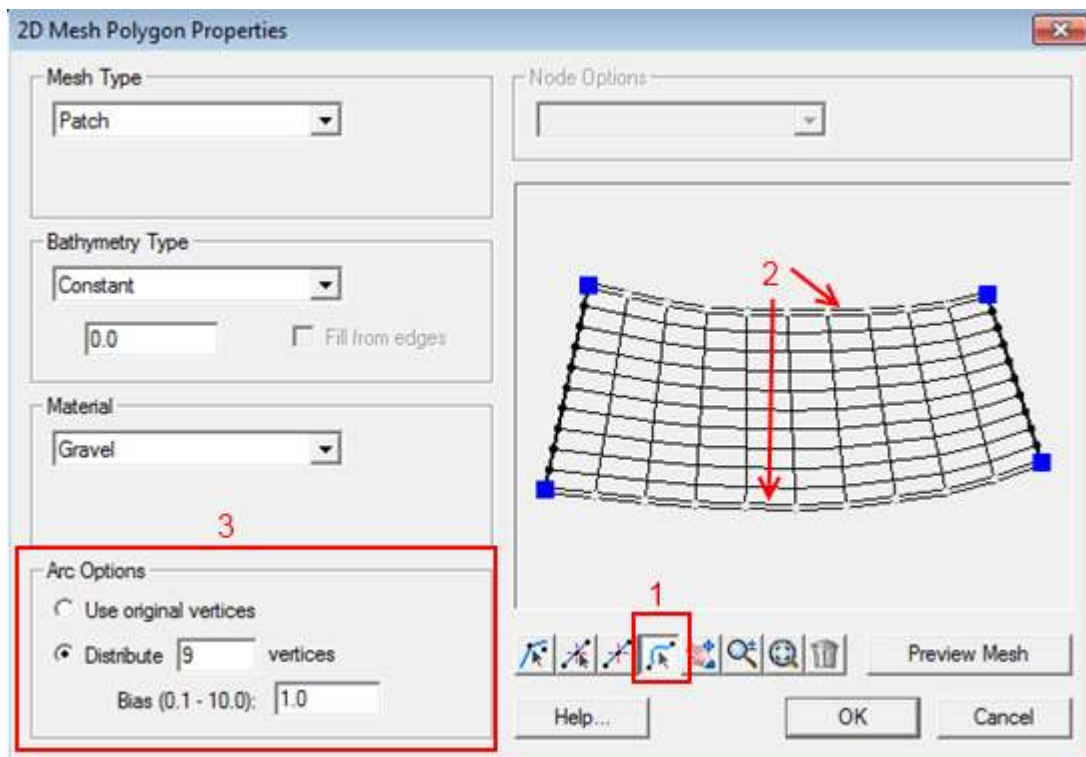

Figure 7
2. Select the *Distribute* option under the Arc Options section and set it to your desired number of vertices. Since both arcs are selected, this will set both arcs to have the same amount of vertices, thus getting rid of any triangular elements. Figure 7 illustrates these steps.